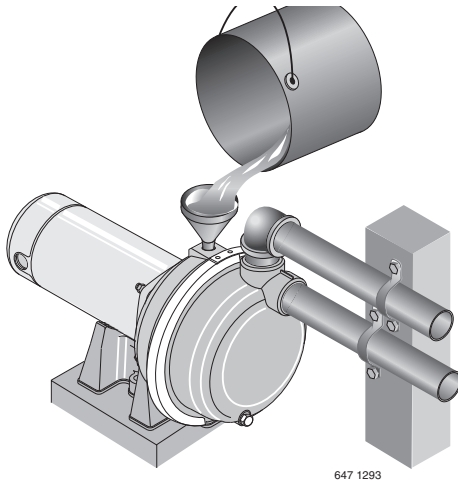

Figure 5: Fill Pump Before Starting
- Step 3. Fill pump and suction pipe with water (Fig. 5).